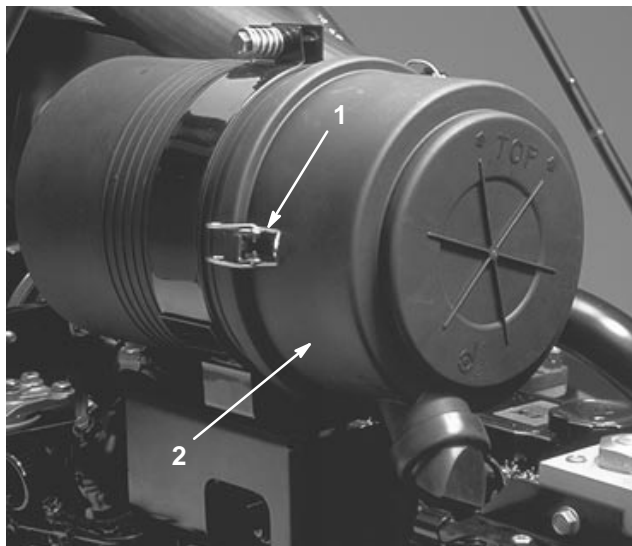

Figure 44
1. Release latches securing air cleaner cover to air cleaner body (Fig. 44). Separate cover from body. Clean inside of air cleaner cover.